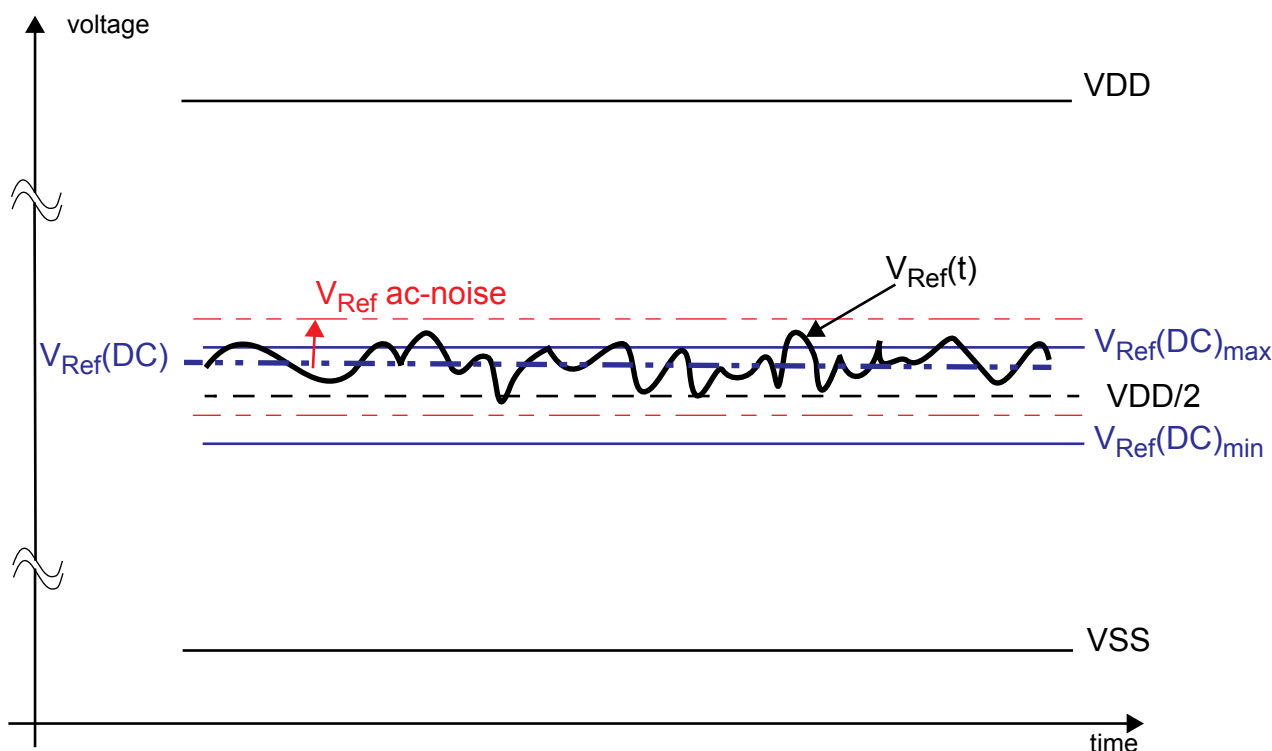

Figure 2. Illustration of  $V_{\text{Ref}}(\text{DC})$  tolerance and  $V_{\text{Ref}}$  ac-noise limits
The dc-tolerance limits and ac-noise limits for the reference voltages  $V_{\text{RefCA}}$  and  $V_{\text{RefDQ}}$  are illustrated in Figure 2 Illustration of VRef(DC) tolerance and VRef ac-noise limits. It shows a valid reference voltage  $V_{\text{Ref}}(t)$  as a function of time. ( $V_{\text{Ref}}$  stands for  $V_{\text{RefCA}}$  and  $V_{\text{RefDQ}}$  likewise). VDD stands for VDDCA for  $V_{\text{RefCA}}$  and VDDQ for  $V_{\text{RefDQ}}$ .  $V_{\text{Ref}}(\text{DC})$  is the linear average of  $V_{\text{Ref}}(t)$  over a very long period of time (e.g. 1 sec) and is specified as a fraction of the linear average of VDDQ or VDDCA also over a very long period of time (e.g. 1 sec). This average has to meet the min/max requirements in Table 18, Single-Ended AC and DC Input Levels for CA and CS inputs. Furthermore  $V_{\text{Ref}}(t)$  may temporarily deviate from  $V_{\text{Ref}}(\text{DC})$  by no more than  $\pm 1\%$  VDD.  $V_{\text{Ref}}(t)$  cannot track noise on VDDQ or VDDCA if this would send Vref outside these specifications.
" $V_{\text{Ref}}$ " shall be understood as  $V_{\text{Ref}}(\text{DC})$ , as defined in Figure 2 Illustration of VRef(DC) tolerance and VRef ac-noise limits.